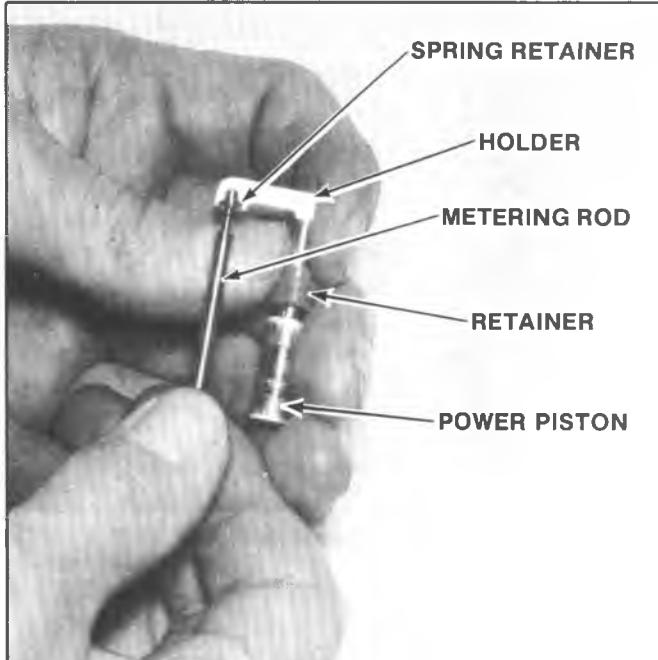

Fig. 6C2-28—Power Piston Assembly
5. Remove intermediate choke shaft and lever assembly from float bowl by sliding rearward out throttle lever side (Fig. 6C2-31).